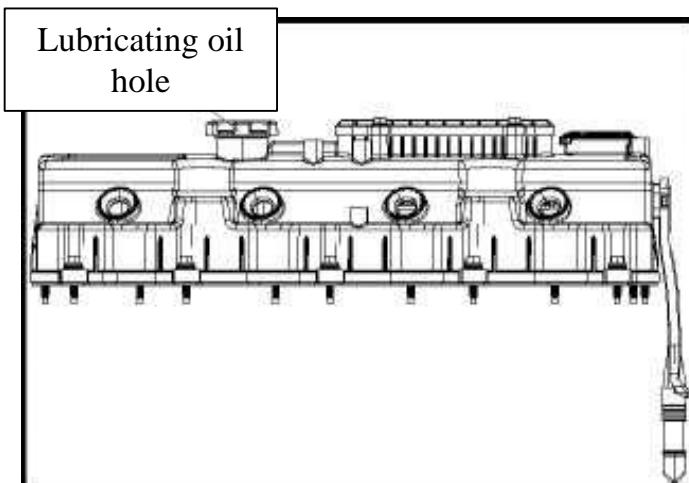

Figure 2-9: Location of pouring lubricating oil
- Open the lid of the lubricating oil hole, fill with the lubricating oil from the lubricating oil hole, observe the line on the oil gauge until it reaches the required level, close the lid (Figure 2-9).